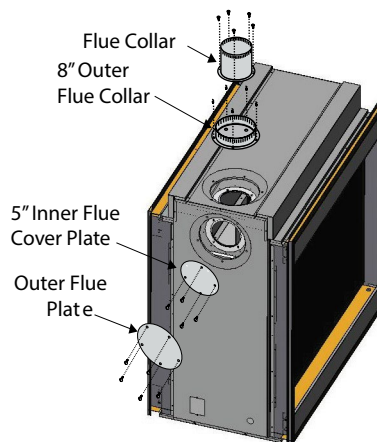

Figure 9. Flue cover and collar removal, **Top Vented** fireplace.
1. Remove the Side flue cover and gasket (5" and 8") on the flue outlet, as shown in **Figure 9**.
2. Next, Remove the Top flue collar's (5" and 8") on the flue outlet, as shown in **Figure 9**.
- Fireplace must be converted to Side Vent configuration prior to running vent, see Figure 9 and 9a.